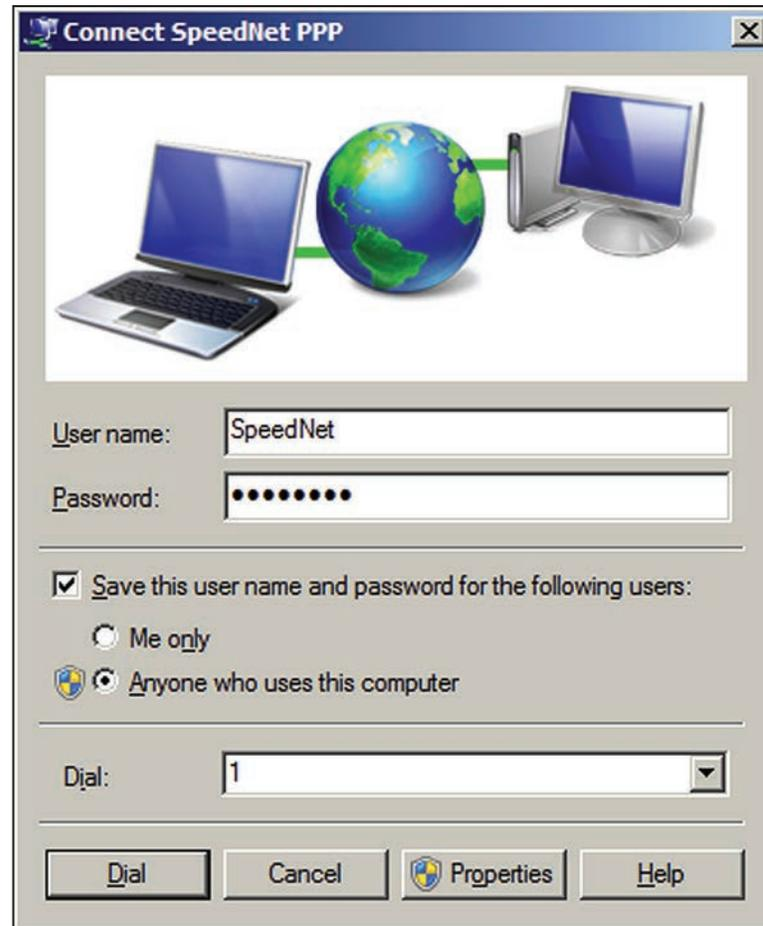
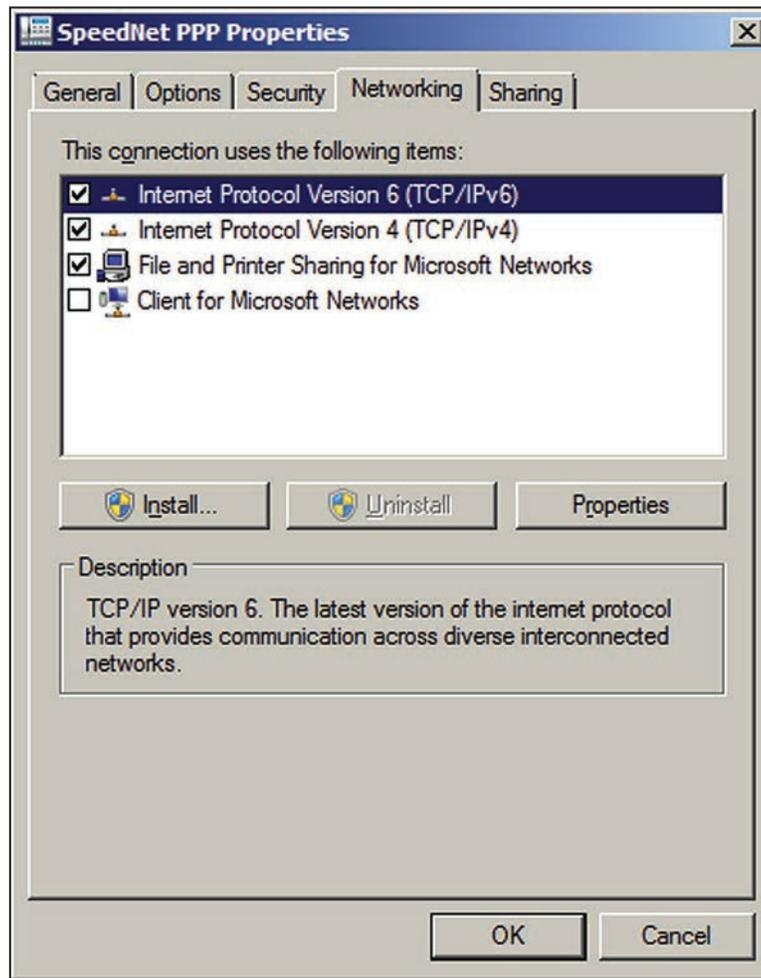

Figure 21. The Connect SpeedNet PPP dialog box.
Figure 22. The SpeedNet PPP Properties dialog box.
STEP 4. The Connect SpeedNet PPP dialog box opens. See Figure 21. Enter the radio User name and Password. Users should contact S&C to obtain their passwords. Click on the **Properties** button. The SpeedNet PPP Properties dialog box opens. See Figure 22 on page 19.
STEP 6. In the Connect SpeedNet PPP dialog box, click on the **Dial** button. See Figure 21 on page 18. A couple of dialog boxes will be quickly displayed, showing the log-in progress. See Figure 23. If the log-in attempt is successful, no error dialog boxes will open. To check the connection status, click on the Network Connection icon located on the system tray. The SpeedNet PPP connection will show a **Connected** status. See Figure 24.